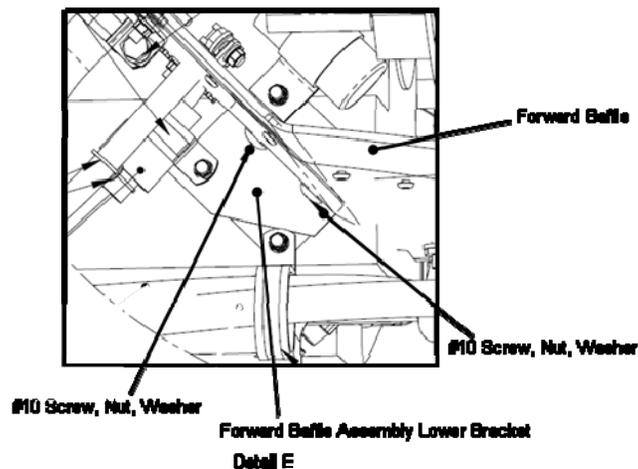

Figure 72-8 Forward Baffle Assembly Lower Bracket
10. Remove #10 screw, nut and washer sets (2) from the forward baffle lower bracket assembly as shown in Figure 72-8.
6. Install the #10 screw, nut and washer set (1) connecting the forward baffle assembly to the starboard baffle assembly. Do not tighten hardware at this time.
7. Install #10 screw, nut and washer sets (2) from the forward baffle lower bracket assembly as shown in Figure 72-8. Do not tighten hardware at this time.